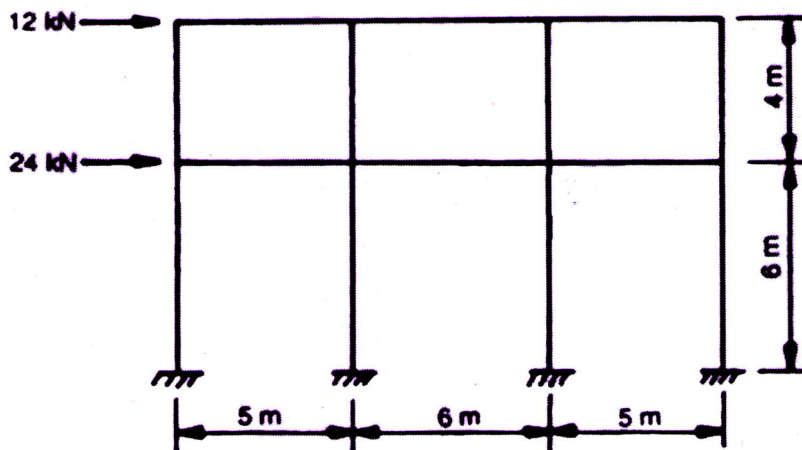

Figure.1
- 1 a) What are the live load positions for maximum positive and negative moments in beams for the vertical load analysis using substitute frame method. (3)
- b) Analyse the frame shown in figure.1 using cantilever method. Assume same cross sectional areas for all the columns (12)